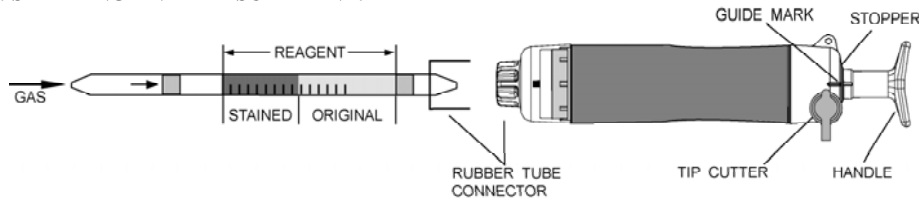

Fig.1
- ② Insert the detector tube into aspirating pump securely as shown in Fig.1 (Arrow mark shall point to the pump.)
- ③ Align the guide marks on the shaft and stopper of the aspirating pump.
- ④ Pull the pump handle at full stroke until it locks and wait for 1.5 minutes or until the completion is confirmed with the flow indicator of the pump (See descriptions about the flow indicator in the instructions of the pump).
- ⑤ On completion of sampling, read the scale at the top of the stained layer.
- ⑥ In case of 2 pump strokes, push the handle once more without removing the detector tube from the pump inlet, turn it right or left 1/4 and repeat step ④ once.
- ⑦ In this case, actual concentration is half of the reading value.
- ⑧ If the discolouration is over the scale, change the tube and pull 1/2 strokes.